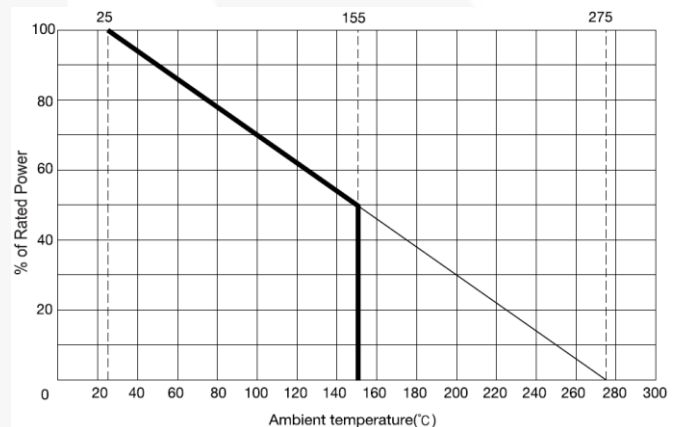

Figure 19. Derating Curve Example of Shunt Resistor (from RARA ELEC.)
- Derating ratio of shunt resistor at $T_{SHUNT} = 100^\circ\text{C}$: 70% (see Figure 19)